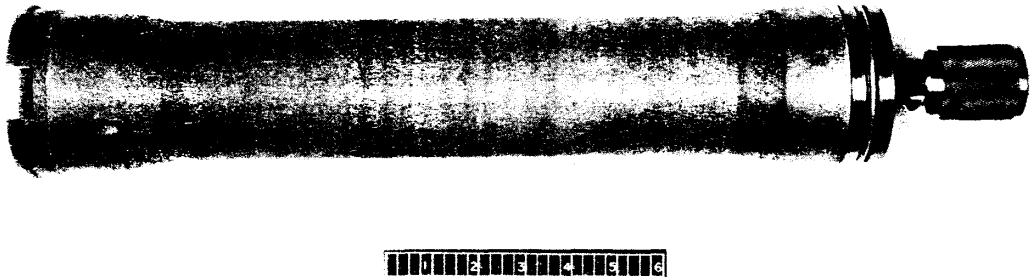

Figure 16. 7.62mm subcaliber gun, M49A1.
a. The subcaliber device (fig. 16) for the 90mm recoilless rifle permits realistic gunner and loader training and eliminates the use of expensive service ammunition. Because targets are not destroyed as they would be if service ammunition were used, range maintenance is reduced.
Page 18. Figure 16 is superseded as follows: